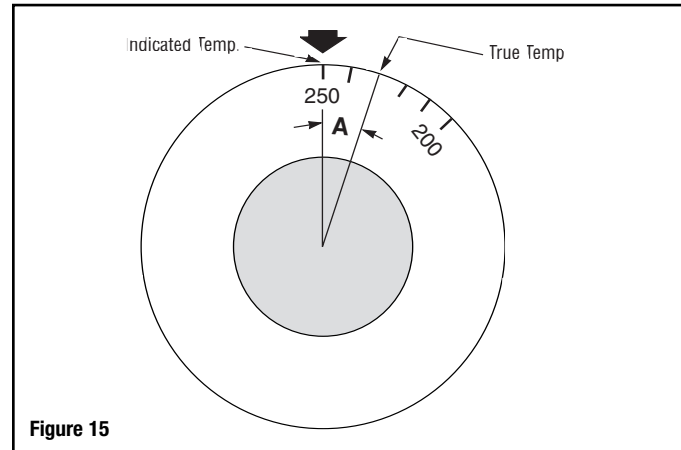

Figure 15
2. Compare adjustment knob cut off temperature indication against actual temperature to which sensing bulb is exposed. Figure 15 shows example of a control knob showing a control indication of 250°F when true process temperature measured 230°F. In this example, the control knob must be rotated 20° counterclockwise to bring the 230°F knob marking under the index mark in order to recalibrate the control.